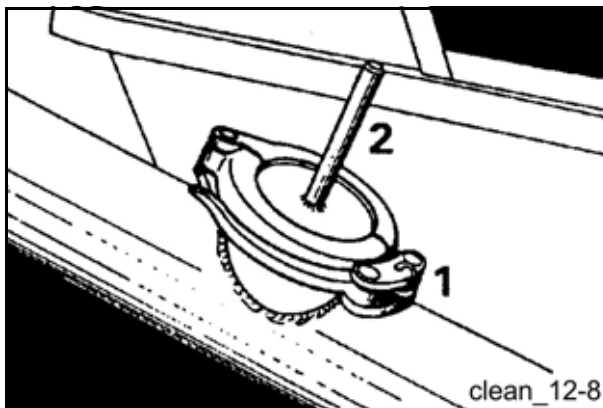

Fig. 241 Cleaning cover
A pumping pipe with a cleaning cover (2) (Fig. 241) is available as special equipment.